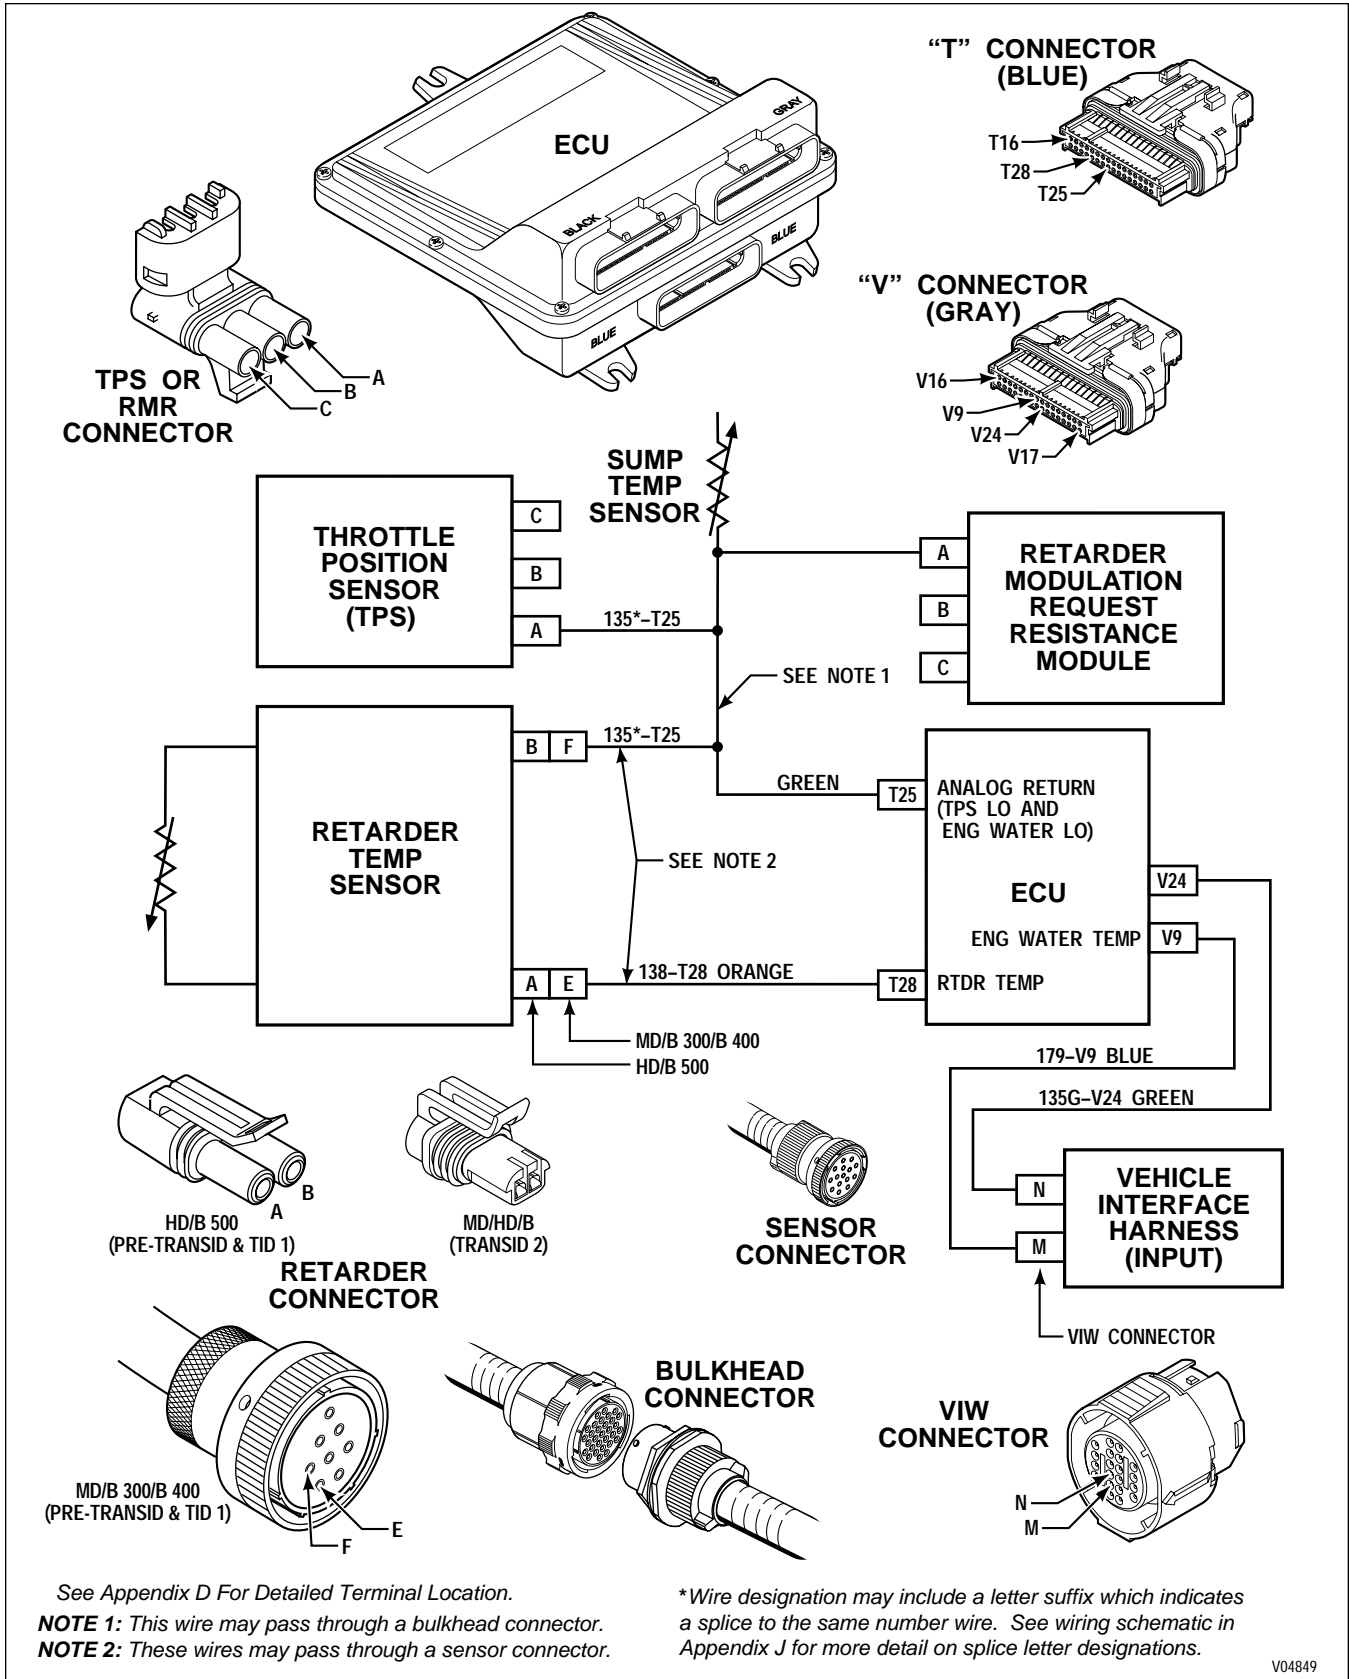

Figure 6-22. Code 62 Schematic Drawing
**CODE 62 XX — RETARDER TEMPERATURE SENSOR** (*Figure 6-22*)